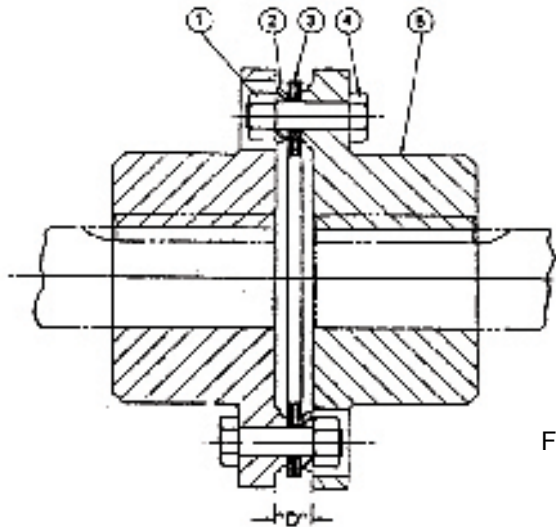

Fig. 1
3. Move the equipment to be connected into position. Set the gap to the required "D" dimension. See Fig. 1 or 2.
4. Assemble the coupling using figures 1 or 2 as a guide. Do not drive or force bolts into position. All nuts *must* be tightened to the value shown in Table I with lightly oiled threads.